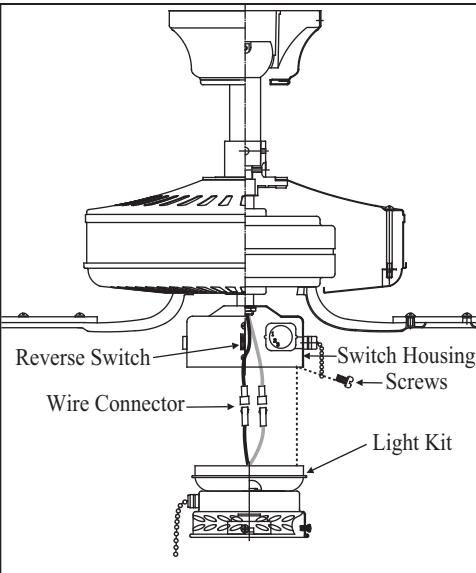

Figure 19
2. Carefully push all wires back into the switch housing. Attach the light kit filter by aligning its keyhole slots with the three screw holes and the reverse switch on the side of the switch housing. Tighten the three screws securely to prevent the light kit from vibrating loose. (Fig. 19)